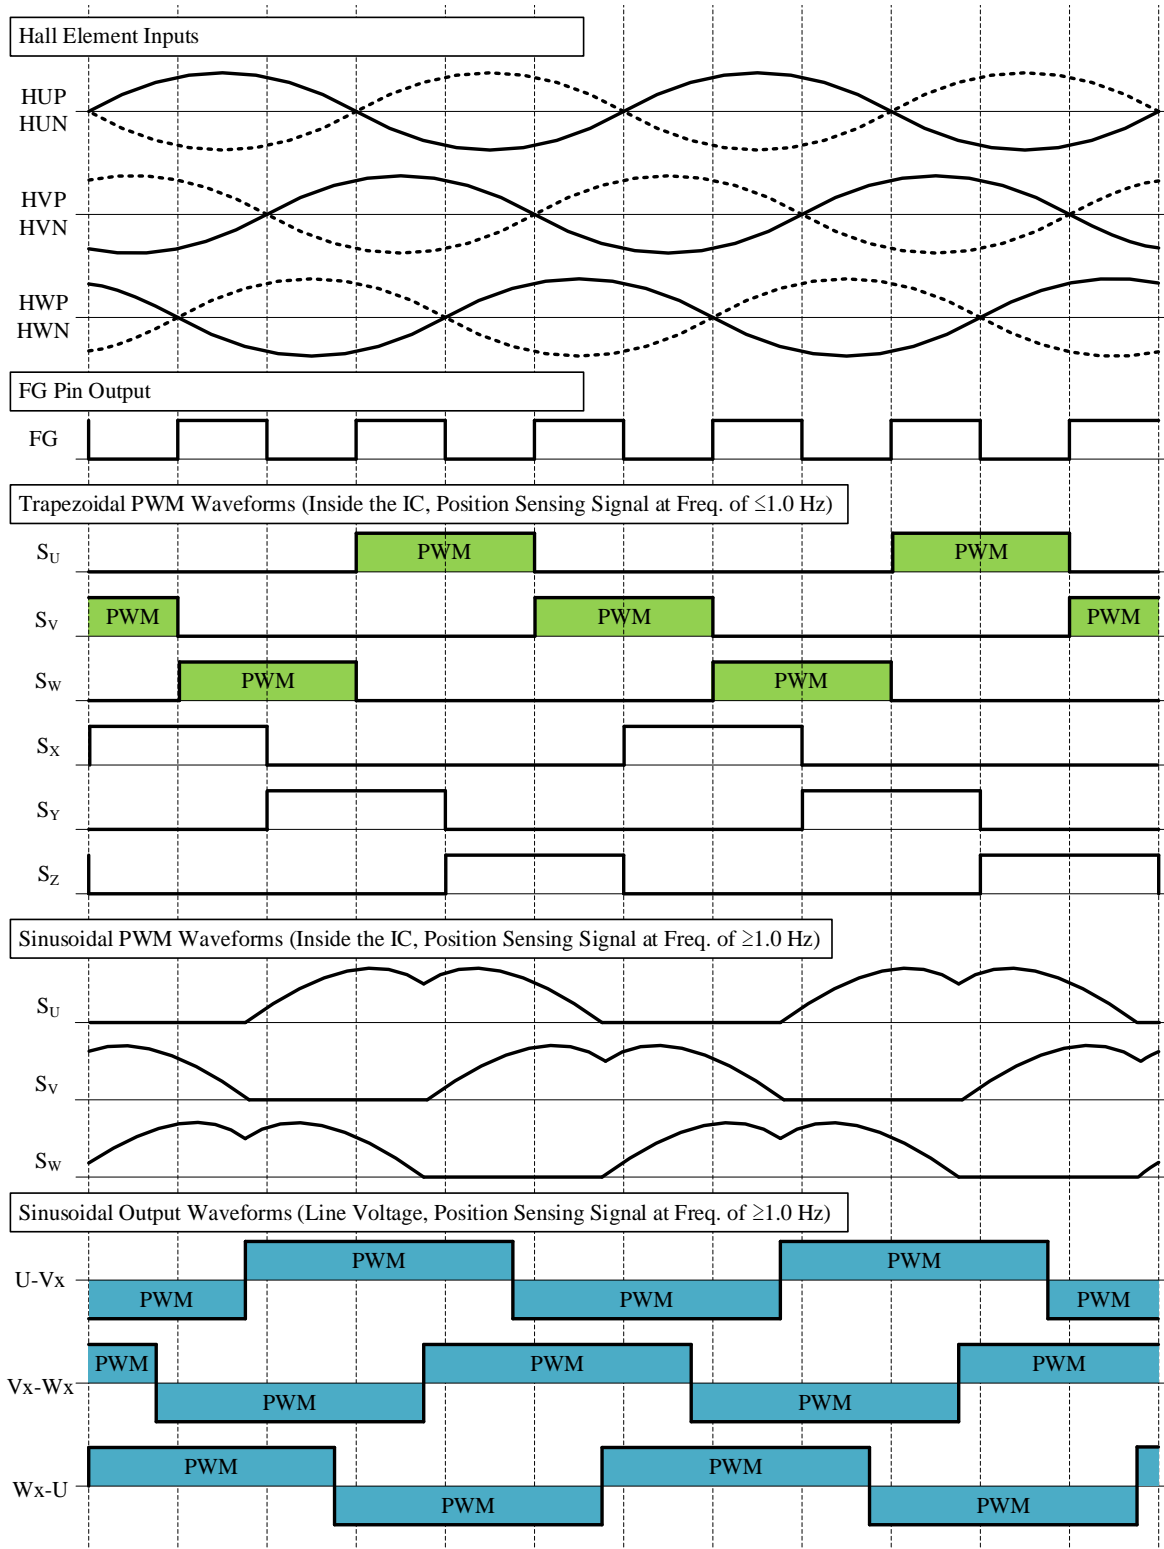
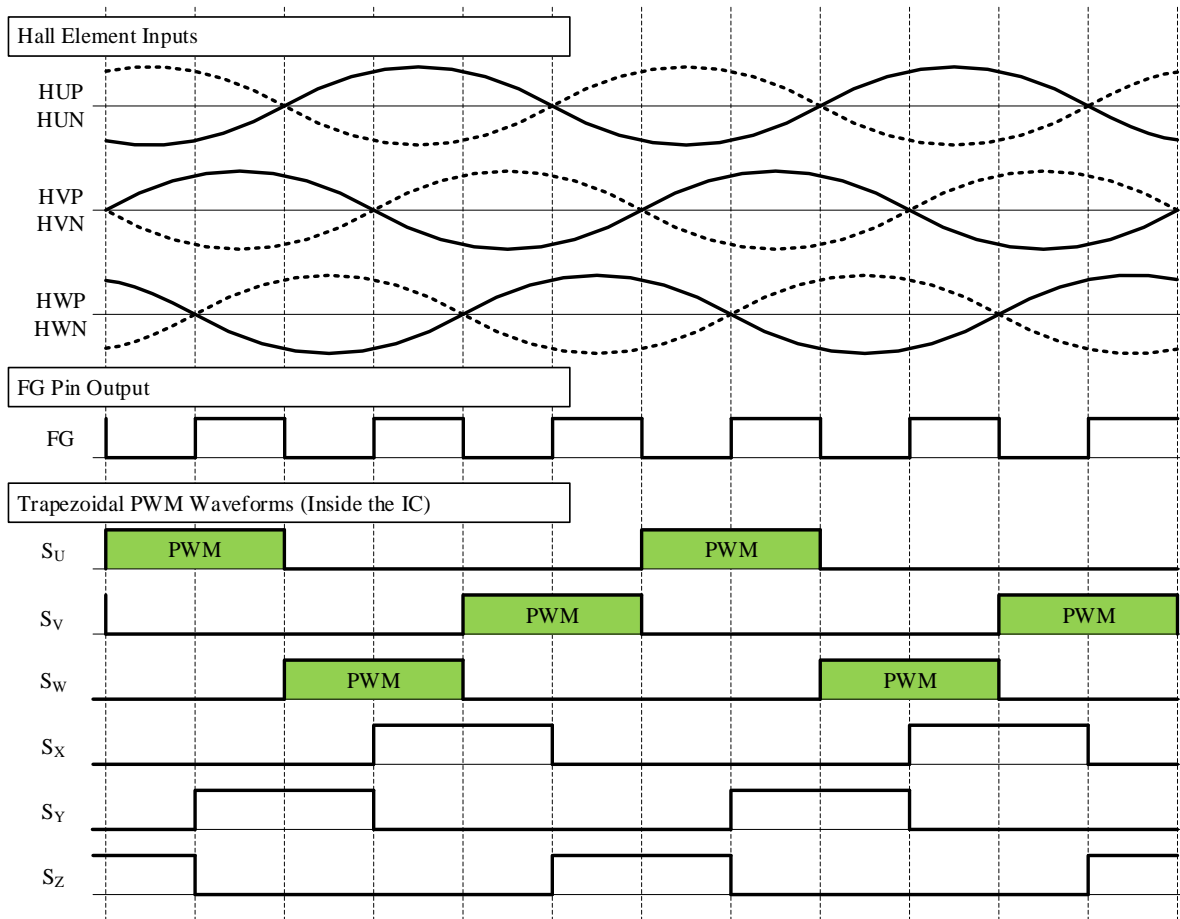

Figure 13-2. Operational Waveforms (Forward, Phase Advance by 15°)
Figure 13-3. Operational Waveforms (in Reverse Rotation Detection)
Figure 13-2 shows the operational waveforms of each pin when an 8-pole motor rotates forward (phase advance by 15°) in normal operation.
Figure 13-3 shows the operational waveforms of the motor at forward rotation (CW) when the preset direction is reverse (CCW).
Table 11-1 and Table 11-2 are truth tables for the motor driven by the trapezoidal control in a forward or reverse rotation. The following timing charts represent the operational waveforms in different motor operations: the motor in a forward rotation (no phase advance; Figure 13-1), the motor in a forward rotation (phase advance by 15°; Figure 13-2), and the motor during reverse rotation detection (Figure 13-3).